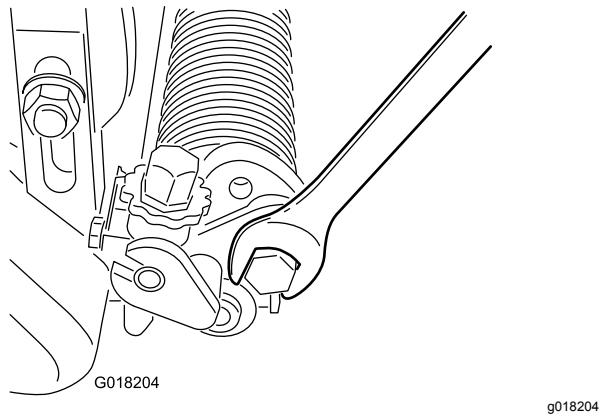

Figure 20
- A. Loosen the bolts on the right and left groomer arms (Figure 20).
- C. Tighten the bolts securing the adjustment (Figure 20).